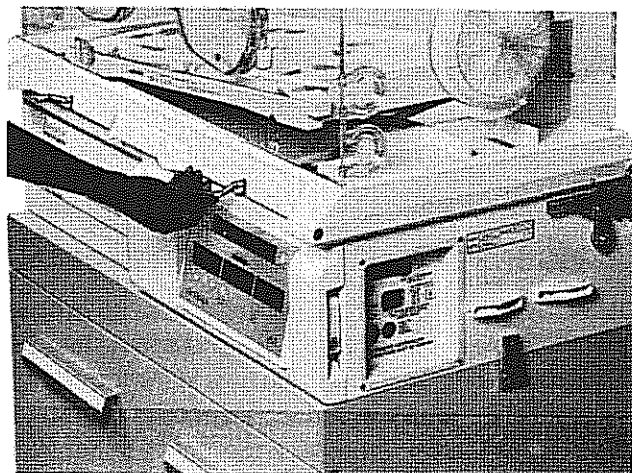

FIGURE 2.10 MATTRESS TILT HANDLES
- L. CHECK MATTRESS ELEVATORS.** Rotate the right mattress tilt mechanism handle (Figure 2.10) clockwise until it stops. The right end of the mattress should be at a 9 degree angle. Rotate the handle counterclockwise until it stops. The mattress should be level. Repeat the procedure using the left mattress handle.